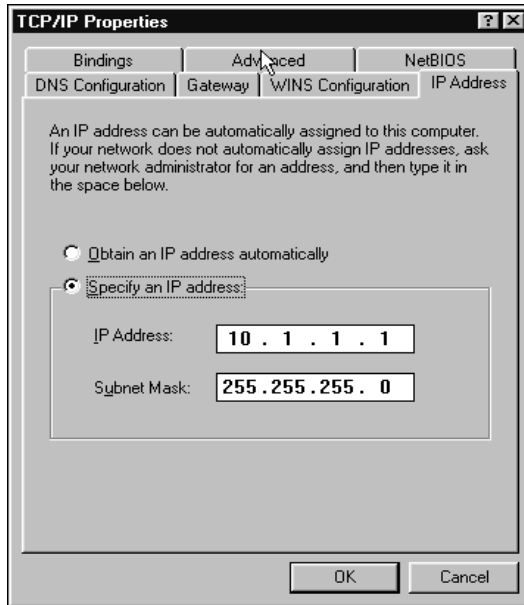

Figure 2-2. PC TCP/IP properties
2. Click the “Specify an IP address” radio button and enter the IP address and subnet mask as indicated in Figure 2-2. Your PC is now configured to have an IP address of 10.1.1.1.